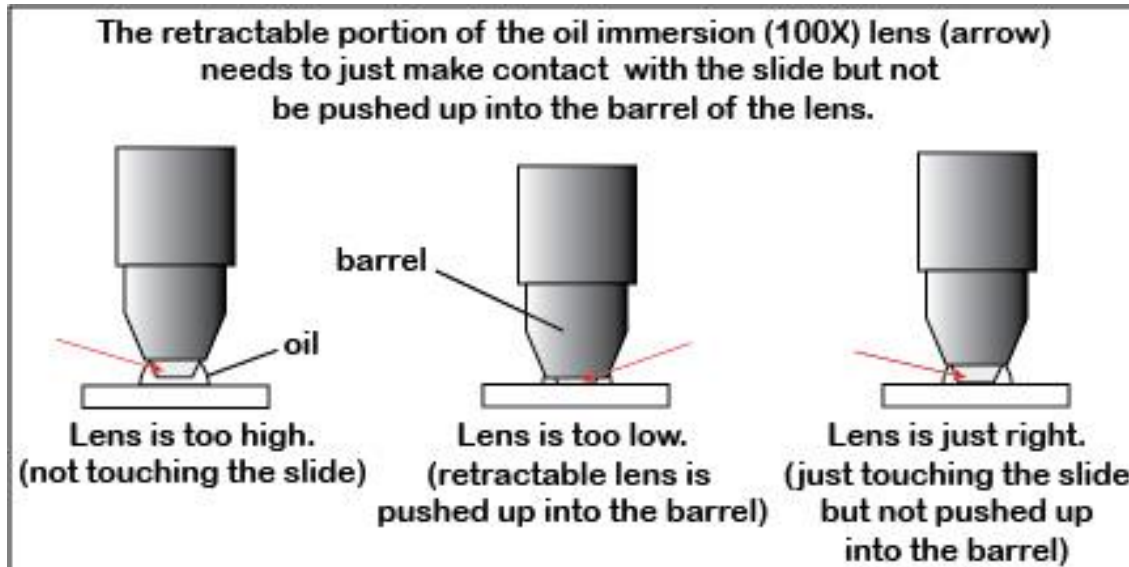

Figure 1: Schematic diagram illustrates the correct method and position for oil immersion microscopy.
- Place a drop of immersion oil (low or high viscosity) onto the coverslip of the slide where the objective will be positioned. Please see **figure 1** before moving to the next step.